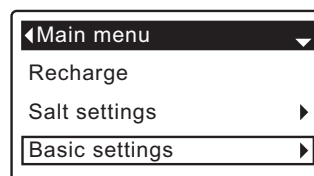

FIG. 36
2. Press the DOWN ▼ button to scroll through the menu options until **Basic settings** is highlighted (See Figure 36).